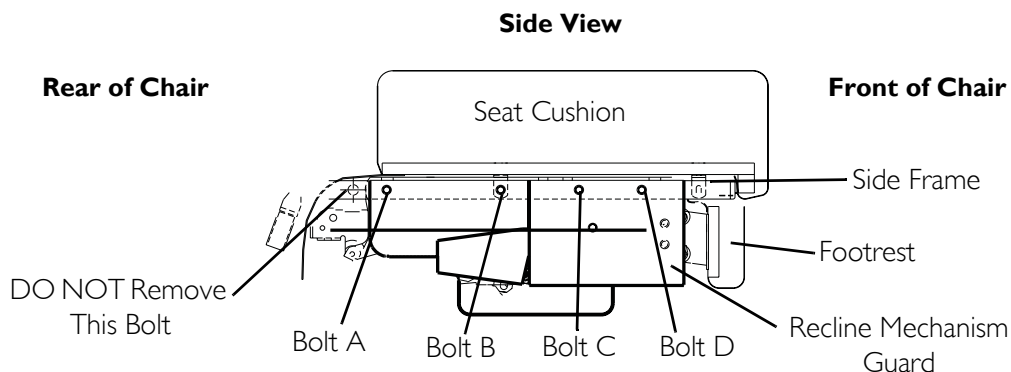

FIGURE 5.4 Replacing the Recline Mechanism Guard
NOTE: For this procedure, refer to FIGURE 5.4 on page 26.
4. Remove four existing bolts A, B, C, and D from side frame as shown in FIGURE 5.4 on page 26.